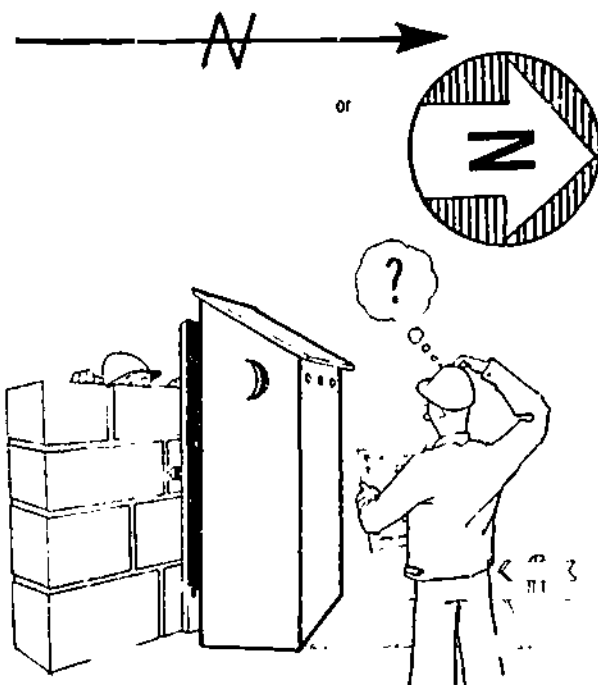

Figure 4-27. Compass Direction
**Direction Marks** Compass direction is usually indicated by a large arrow, as shown in Figure 4-27.
**Sections** A key is sometimes used to link sections to the appropriate detail drawings, replacing the conventional cutting plane lines (see Figure 4-25 "Lines Used on Structural Drawings") on the erection drawing, as Figure 4-27 illustrates.